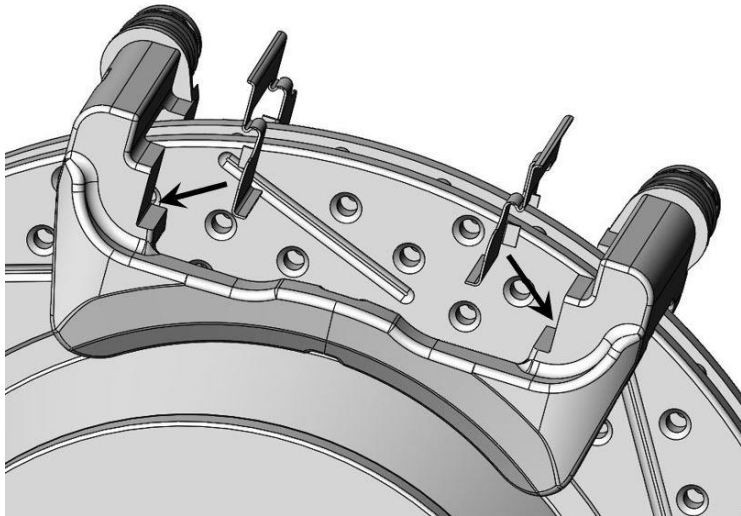
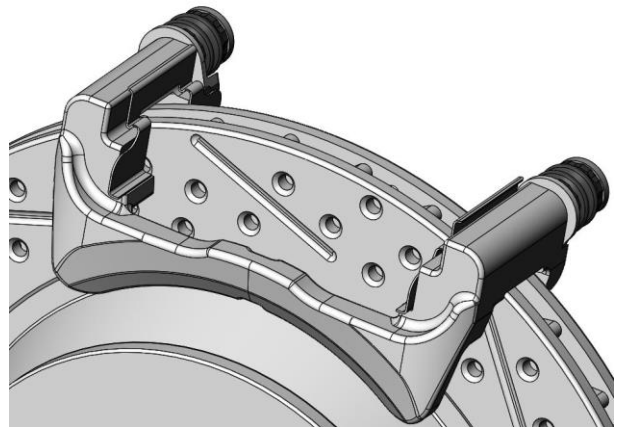

Figure 8a – Abutment Clips Installation
Figure 8b – Abutment Clips Installed
11. Place the Stainless Steel Abutment Clips into the Caliper Anchor Bracket at this time. Refer to Figure 8a and Figure 8b on the next page installation reference.